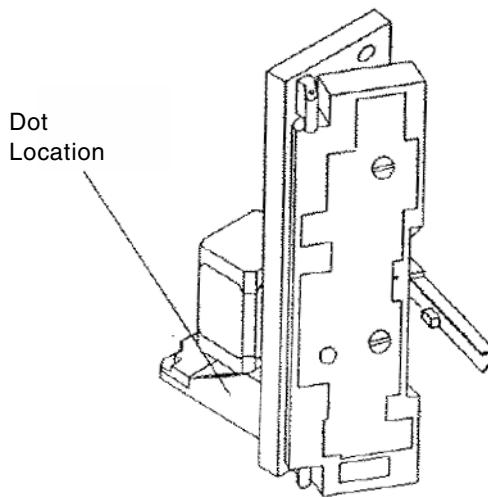

Figure 8-3 Location of Yellow or White Dot
13. Inspect for a white or yellow dot on the side of the slide clamp assembly (nearest the middle of the device) and on the FPC terminal PCB (see Figure 8-3 for location). If a dot is present, proceed to step 14.
- 13.3 Using a yellow paint pen, mark a yellow dot on the side (nearest the middle of the device, see Figure 8-3) of the slide clamp assembly. Proceed to step 14.